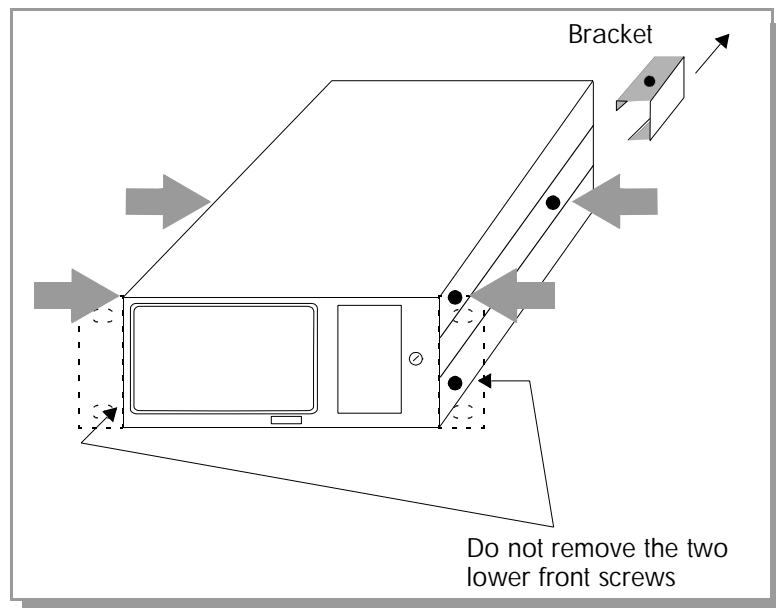

Figure 2-2 Location of Screws for Removal of Top Cover.
3. Remove the four Phillips head screws identified in Figure 2-2. If the unit is equipped with a rear bracket instead of one rear screw, unfasten the Phillips head screw on the bracket, and slide off the bracket.